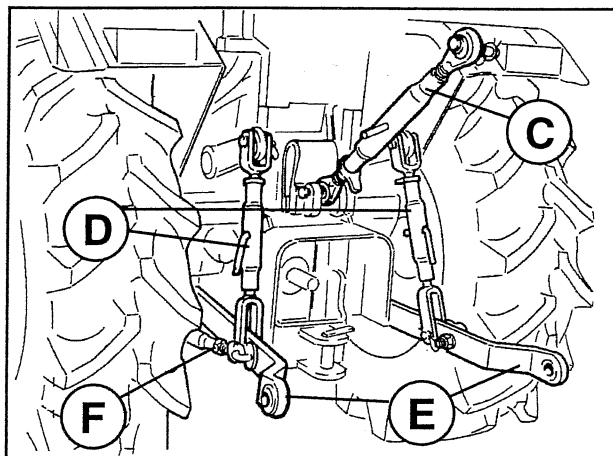

Fig. 16 Three point linkage components
THREE POINT LINKAGE (Fig. 16)
- 1) **Lower lift arms (Bretelle) E** (Fig. 16)
- 2) **Adjustable vertical tie-rods D** (Fig. 16)
- 3) **Anti-swing transversal side rods (stabilizers) F** (Fig. 16)
- 4) **Adjustable central rod (3rd point) C** (Fig. 16)